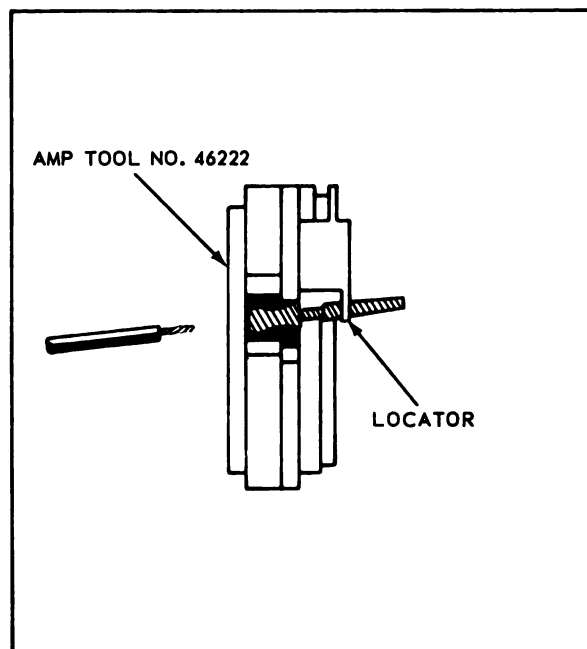

Figure 6-5. Positioning Taper Pin in AMP Crimping Tool
e. Holding the tool with the unblackened link uppermost, insert the taper pin from the under side so that the pin shoulder rests against the locator in the tool. See figure 6-5.